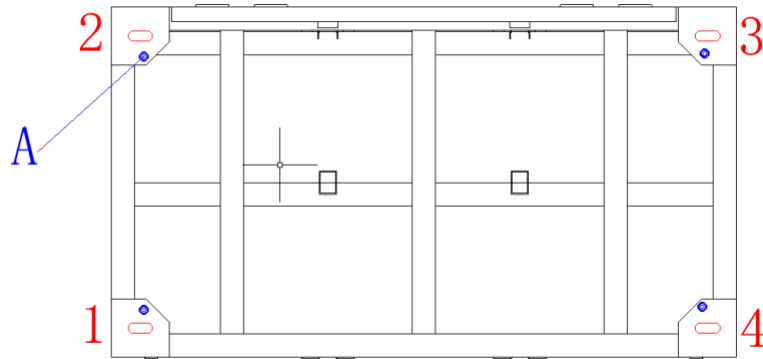

Figure 3 Schematic diagram of grounding points and fixing points
Install according to the on-site situation. Please refer to 1.7.3 for specific installation location requirements. Secure the battery rack to the ground with bolts, ensuring that the bolts are securely fastened. After fixing the battery rack, use a grounding wire to reliably ground the battery rack. Please refer to Figure 3 for the fixed points (1/2/3/4) and grounding points (A).